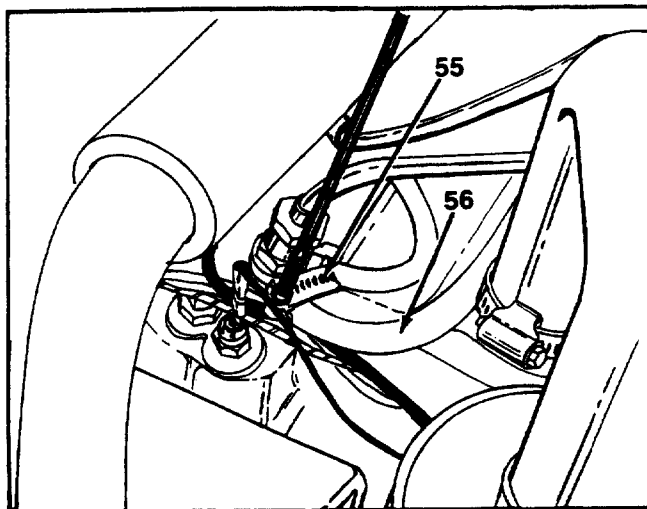

FIGURE 28.
31. Loosen the hose clamp at fuel return line, remove fuel return line. See figure 28.